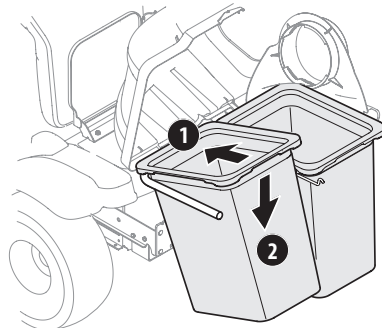

Figure 18
- Install both grass bag assemblies (664-05104) onto the hanger assembly rail by inserting the front edge in first (1), as shown in Figure 18, and setting the back edge down until it fits into the assembly (2).